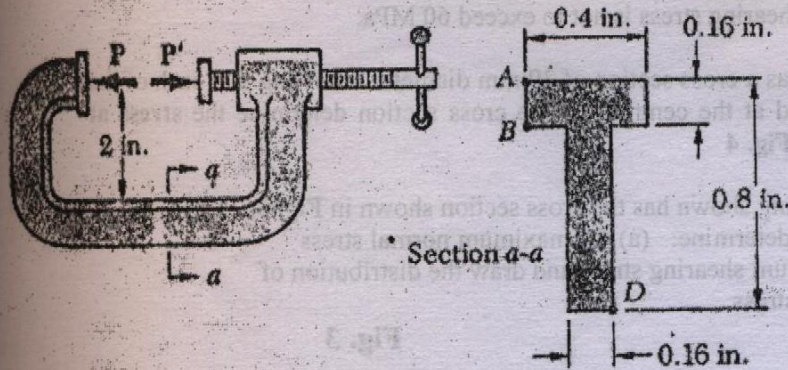

Fig. 1
- 1- Knowing that for the clamp shown has been tightened until  $P=85$  lb, determine a) the stress at point A, b) the stress at point D, c) the location of the neutral axis. Fig. 1